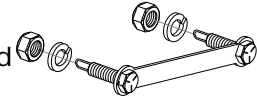

Fig. 9.
2. Find the Bolt Plate with welded 1/2" bolts P/N: 081605 in the hardware kit. Make sure that the 1/2" Hex Nuts will thread on to the bolts and that the bolts will fit into the existing frame holes, see figure 9 & 10 this page.